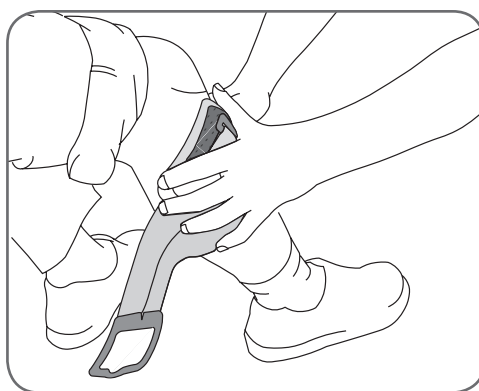

Figure 8-15: Capturing the L300 electrode bases.
7. Keeping the L300 FS Cuff open, lower the bottom of the cuff, allowing only the front to contact the anterior surface of the tibia. Then wrap the ends of the L300 FS Cuff around the leg to “capture” the electrode bases. See Figure 8-15.